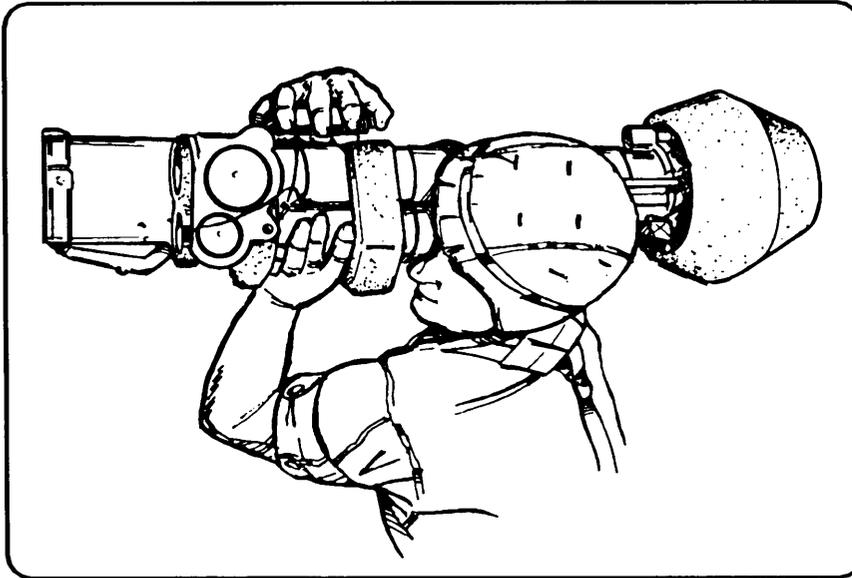

Figure 7-5. Correct eye and hand positions.
(1) Kneel on both knees and spread them a comfortable distance apart. Position the bipod so that you have to lean forward to position the eye in the eye guard.
(2) Grasp the tracker as previously described. Maintain the same upper body position as in the other firing positions. Place the round on the shoulder muscle, keeping it tight against the neck (Figure 7-5).
(3) As the buttocks are lowered to the heels, take the slack out of the bipod. Try to sit on the heels to provide a stable platform for firing.